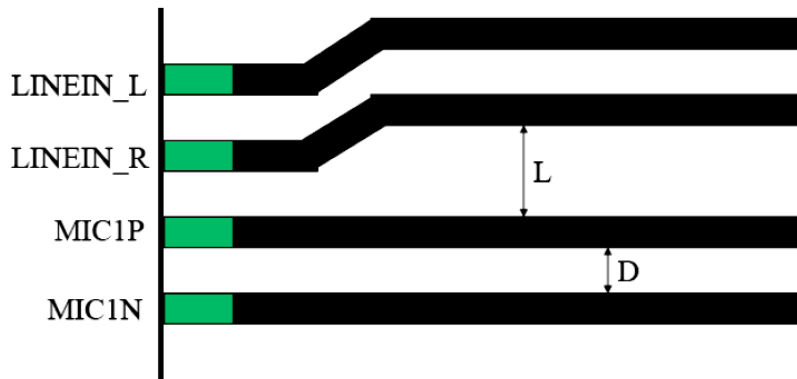

Figure 5-4. The routing for Analog Inputs ($L > 60$ mils, $D \leq 10$ mils)
- i. To avoid a cross-talk issue result from having no enough space between channels or input/output traces. The cross-talk may interfere in analog signal, especially the **MIC1P/MIC1N** and **MIC2P/MIC2N**. In Figure 5-4, the isolation between **LINE_IN_R/LINE_IN_L**, and **MIC1P/MIC1N** are routing as wider as possible (**L** at least 60 mils).